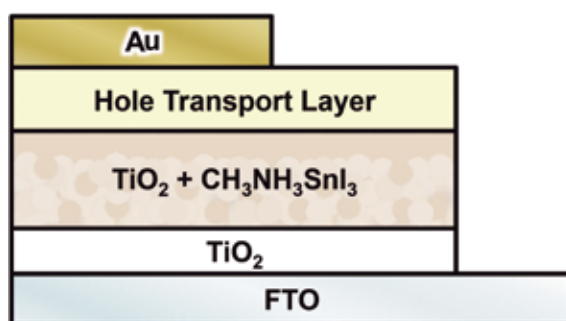
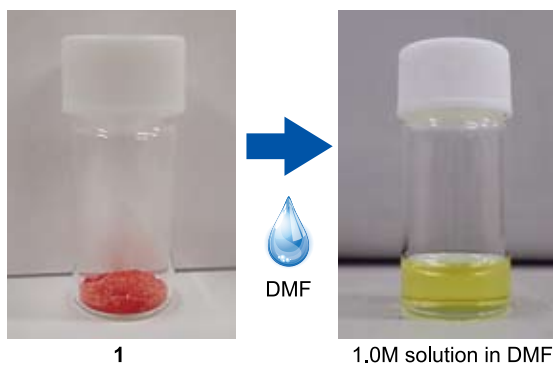

Figure 1. A typical device structure of lead-free perovskite solar cells3)
Figure 3. Crystalline solid (left) and DMF solution (right) of **1**
In recent years, perovskite solar cells (PSCs) have received much attention as a novel solar cell type, and display power conversion efficiencies over 20% seen via PSC devices whose active layers were mainly consisted of lead.1) On the other hand, lead-free or mixed metal PSCs have also been heavily researched (Figure 1)2) due to the concerns of lead toxicity. Tin is one of the possible lead alternatives, and tin(II) iodide can be readily used as a precursor of perovskites. Using a high quality precursor without contamination from tin(IV) compounds (e.g. SnI4) is required in order to fabricate a good perovskite layer.3) Subsequently, TCI offers product **1** as high quality tin(II) iodide for perovskite precursor with extremely low tin(IV) content to meet purity requirement needs. In addition, **1** is suitable for solution-processed solar cells because its water content is low (<100 ppm) and it provides clear DMF solutions (Figure 3).